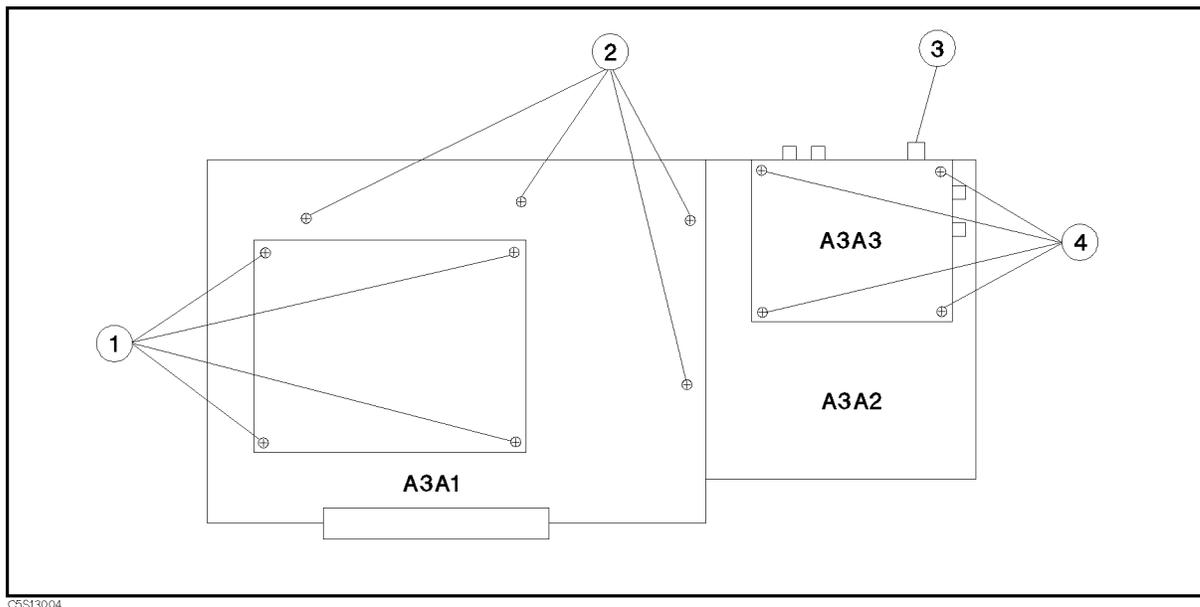

Figure 13-3. A3A1, A3A2, and A3A3 Replacement
- b. Place A3 facing A3A1 upward as shown in Figure 13-3.
- c. Remove the four screws designated ① in Figure 13-3 to remove the shield case on A3A1.
- d. Remove the four screws designated ② in Figure 13-3 to remove A3A1 from A3A2.
- a. Place A3 facing A3A2 upward as shown in Figure 13-3.
- c. Remove the connector cover designated ③ in Figure 13-3.
- d. Remove the four screws designated ④ in Figure 13-3 to remove A3A3 from A3A2.